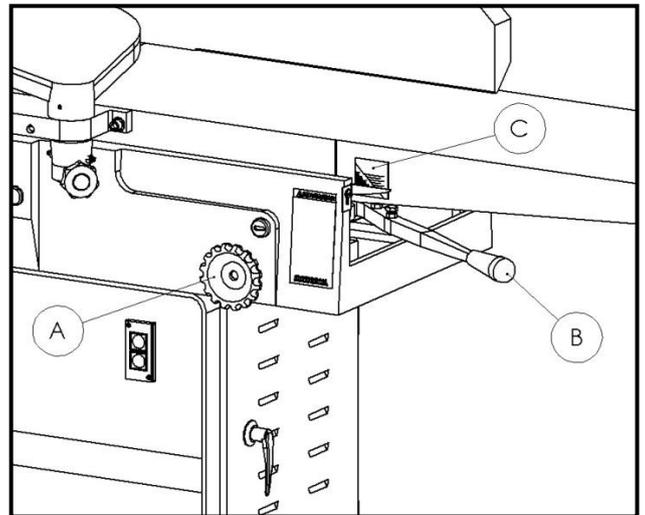

Fig. 11
Loosen lock handle (A) and move table adjustment arm (B) to raise or lower infeed table. Gauge (C) shows the distance of travel, Fig. 11.